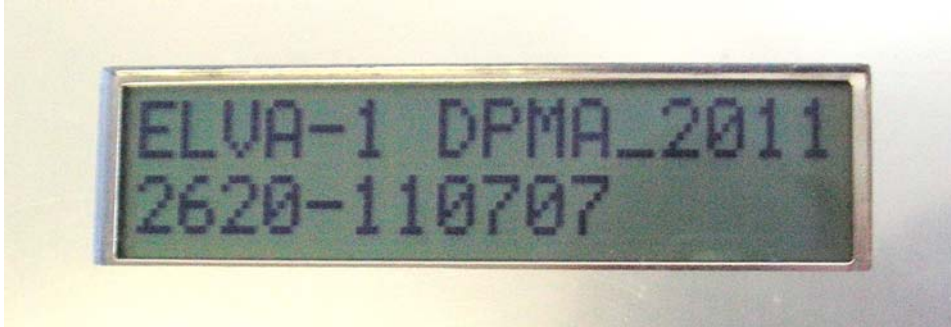

Fig.6 Loading DPM screen
- Lines with number of software will appear on the screen. Fig.6.